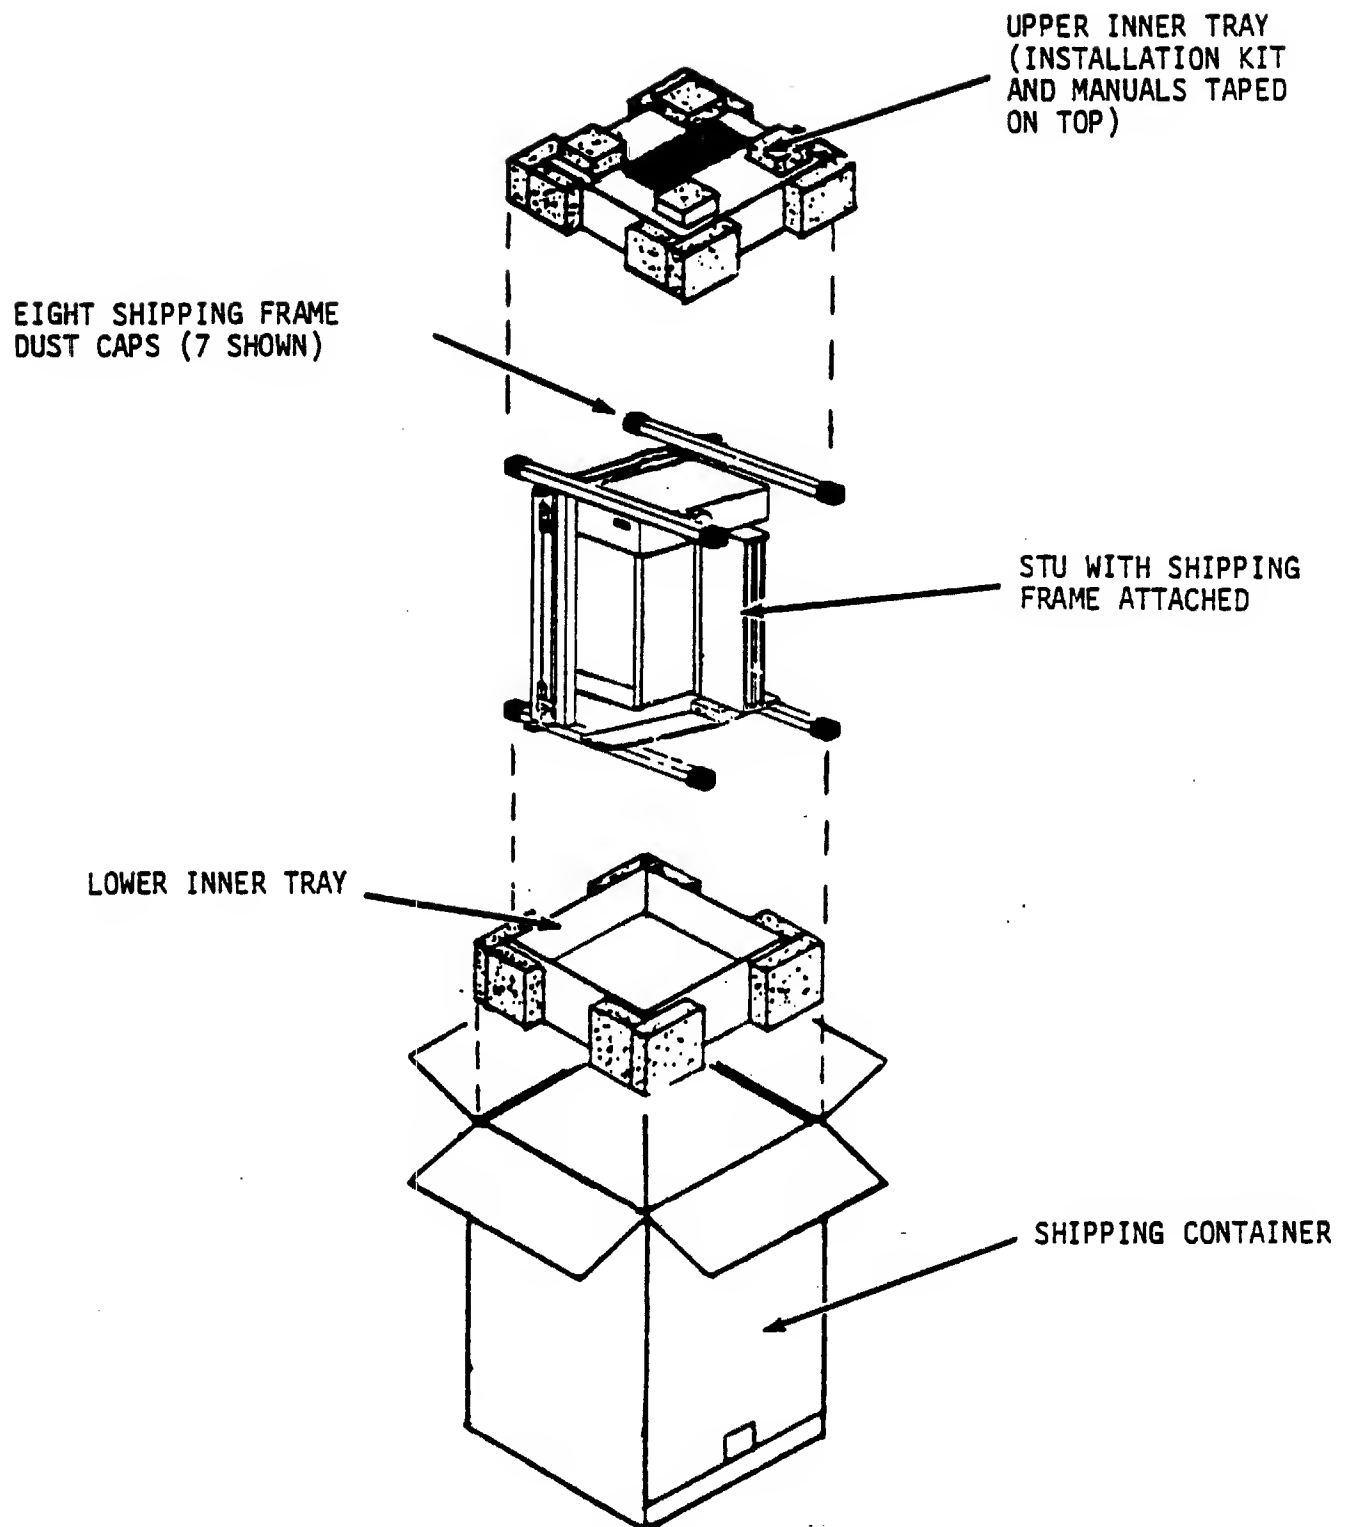

Figure 3-6. STU Packaging
2. Remove STU and all protective packaging as follows: (See figure 3-6)